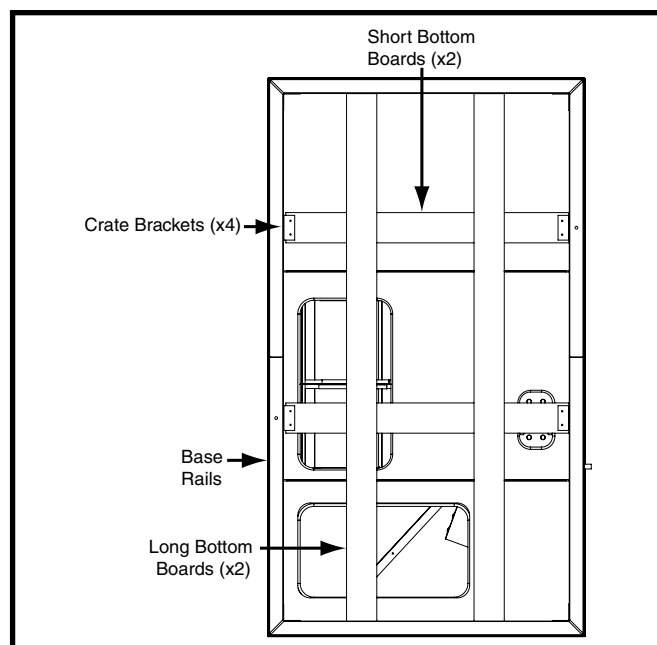

Figure 3. Bottom View
4. Remove crate brackets (Figure 3) securing long and short bottom boards to underside of unit. **NOTE: Some screws are located in fork slots.**